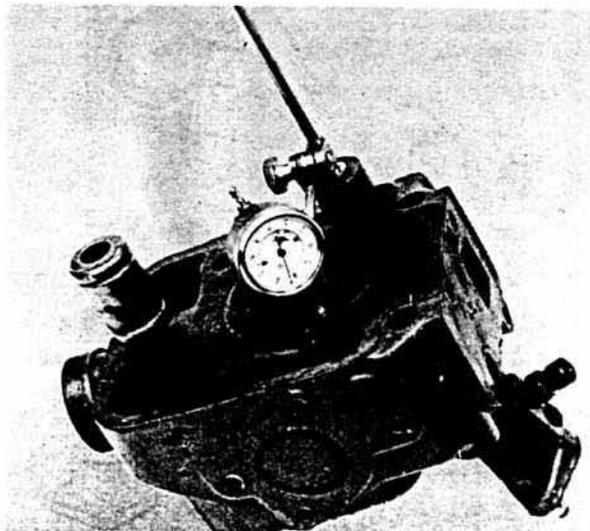
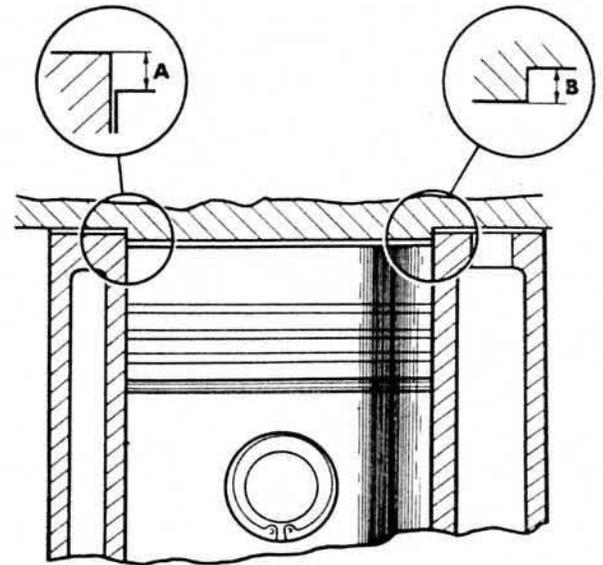

Fig. 31.
Fig. 32.
6. Measure the distance from the upper part of the cylinder block to the piston using an indicator gauge or a depth micrometer. To this measurement "A", see Fig. 32, add 1.3 mm (0.051") which is the thickness of a compressed cylinder head gasket.
7. Then measure the height difference between the downward projecting part of the cylinder head and the mating surface, see Fig. 31. This corresponds to "B" in Fig. 32. From the value "A" + 1.3, subtract "B". The resulting value should be 0.4 - 0.5 mm (0.016 - 0.020").